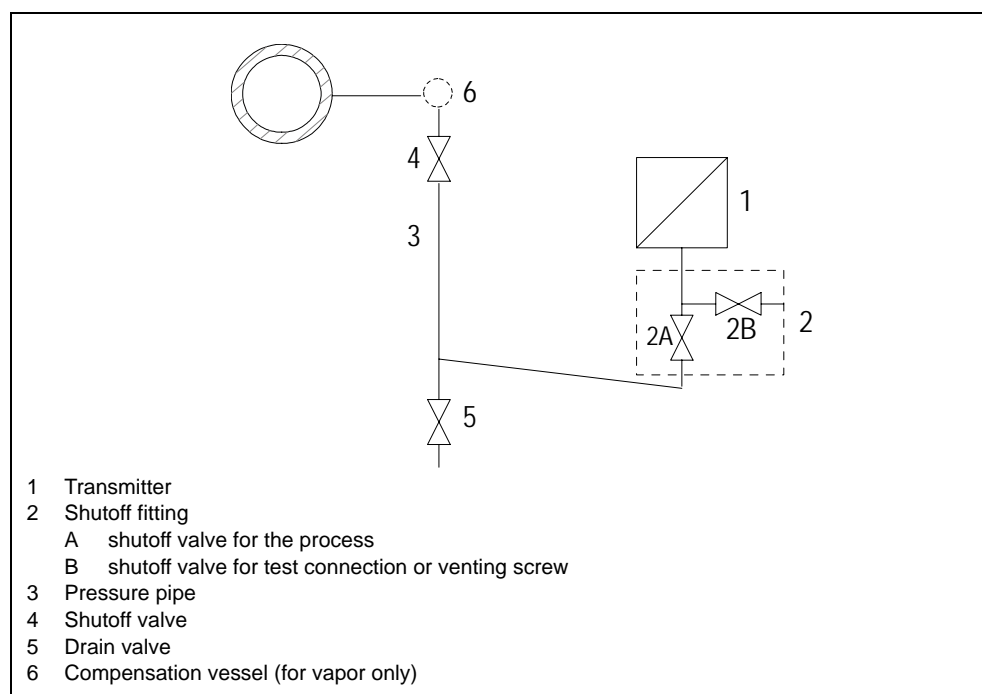

Figure 33 Measuring vapor
1. Open the shutoff valve. See (2B) Figure 33.
2. Apply pressure corresponding to the start of scale through the test connection of the shutoff fitting (2) to the transmitter,
5. Open the shutoff valve (4) on the pressure tap.